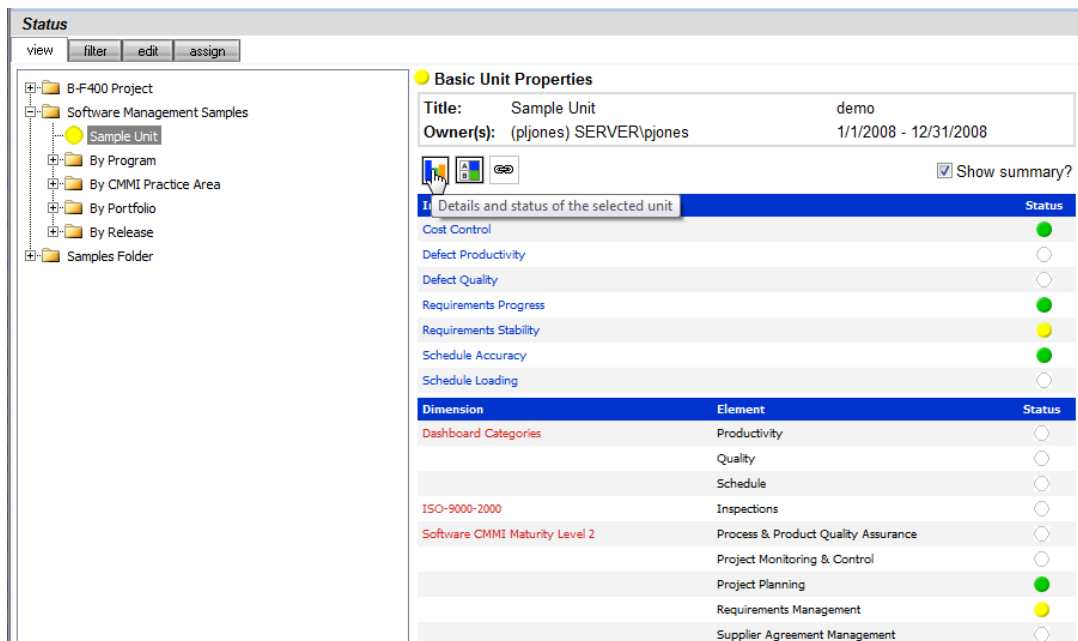

Figure 13
2. Ensure the desired Unit is selected (Figure 13)